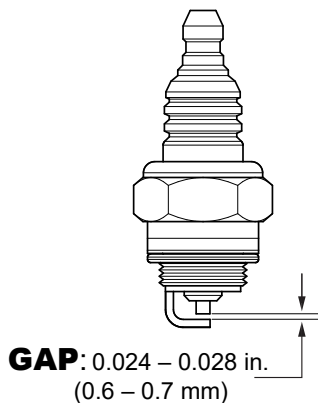

Figure 28. Spark Plug Gap
- Remove and clean the spark plug (Figure 28), then adjust the spark gap to 0.024–0.028 inch (0.6–0.7 mm). This unit has electronic ignition, which requires no adjustments.